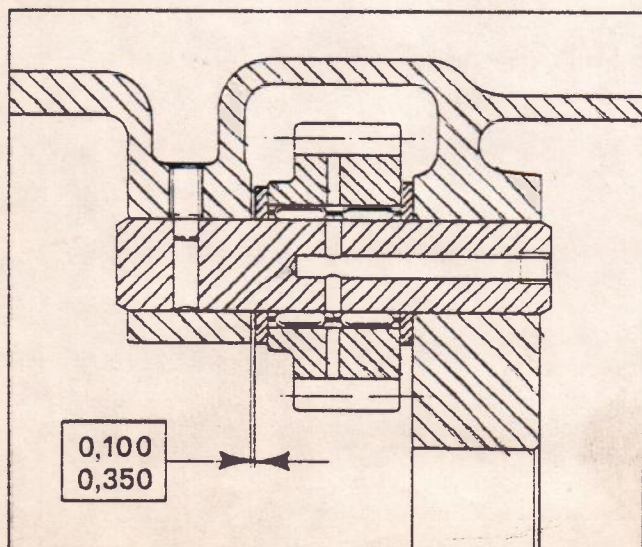

Fig. 9 Reverse Gear Idler Gear Group
- Install the reverse idler gear assembly group (Fig. 9).